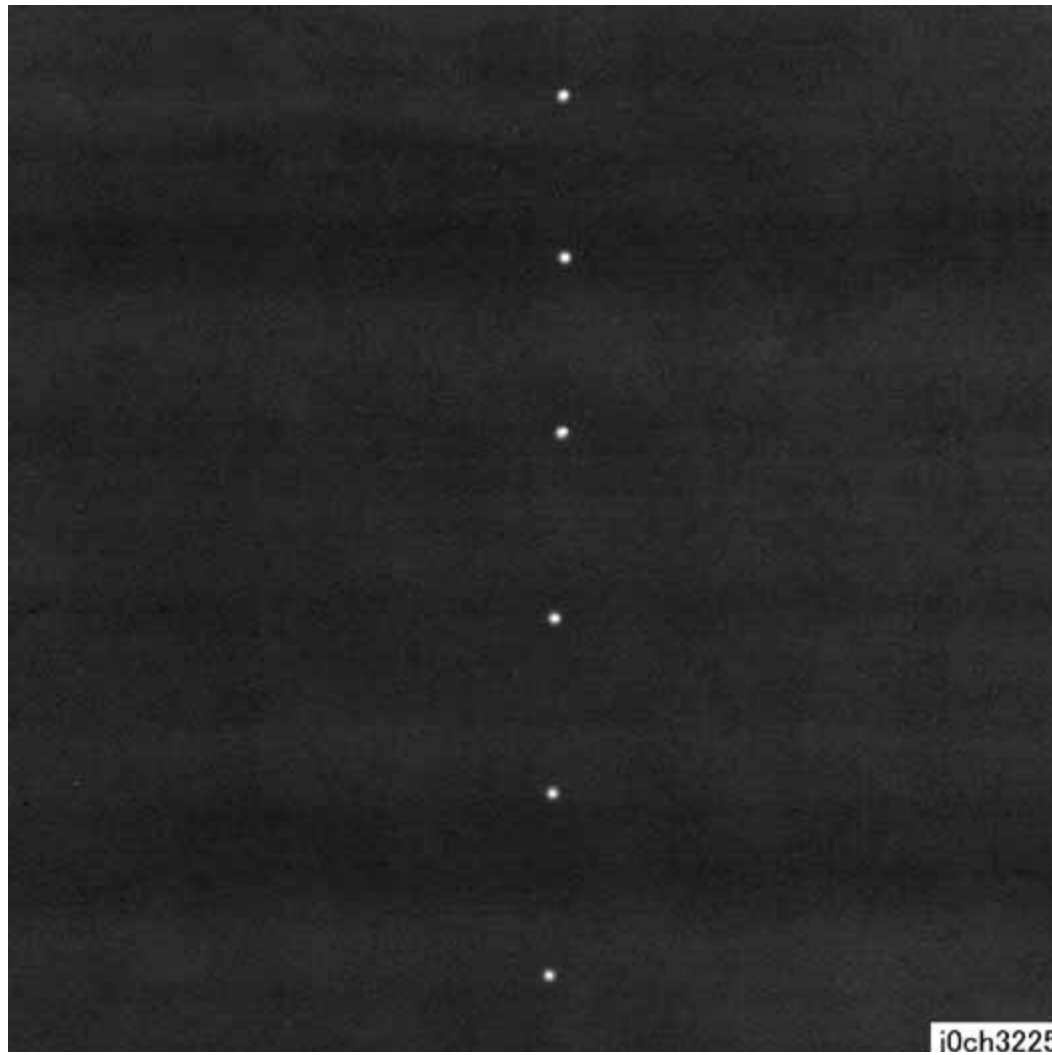

Figure 8 Regular Deletions in the Process Direction (Spots, Streaks, Bands, etc.)
- Regular Blanks in the Process Direction (Spots, Streaks, Bands etc.) (Figure 8)